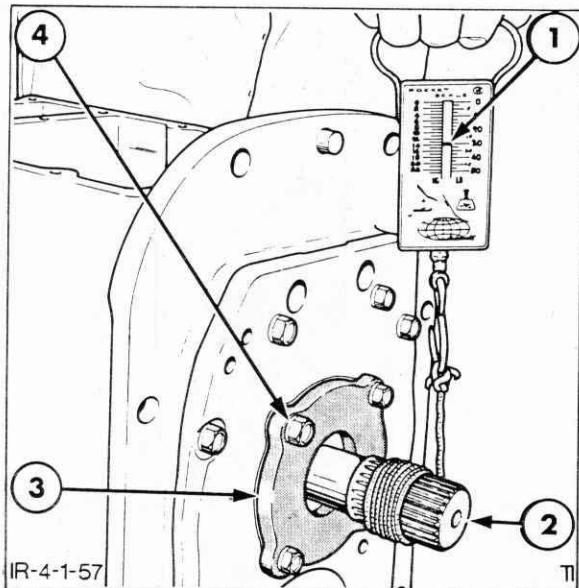

Figure 4-57
8. Wrap a suitable length of cord around the output shaft splines, Figure 4-57. Ensure that the cord does not overlap. Attach a